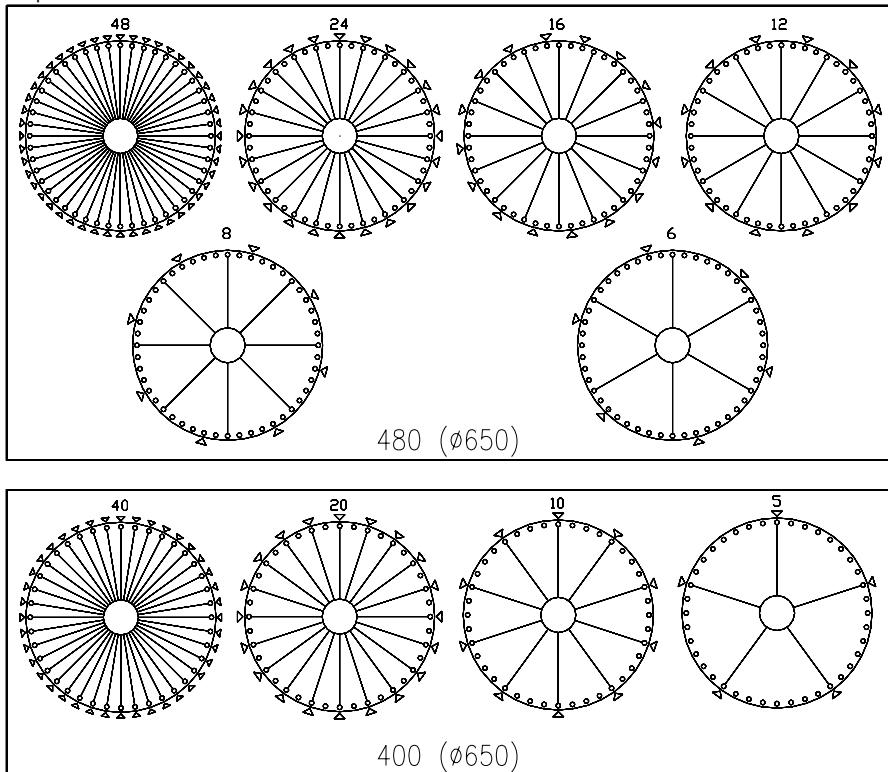

FIG. 7
Machines are delivered with compartment sizes set as in FIG. 6 - FIG. 7. It may be necessary to change the compartment sizes to sell different products. The number of compartments is altered by removing or adding divider blades. The number of spaces for each drum can be: 6,8,12,16,24,48 - 5,10,20,40. When the number of dividers is changed it is necessary to adjust the sliding plates on the right hand grille assembly FIG. 5, and to remove or replace the plastic blocking plugs in the edge of the base plate corresponding to the width of the compartment. Here follows two methods of replacing the dividers.
- 8) Plug all the holes in the edge of the base disc as in FIG. 7.